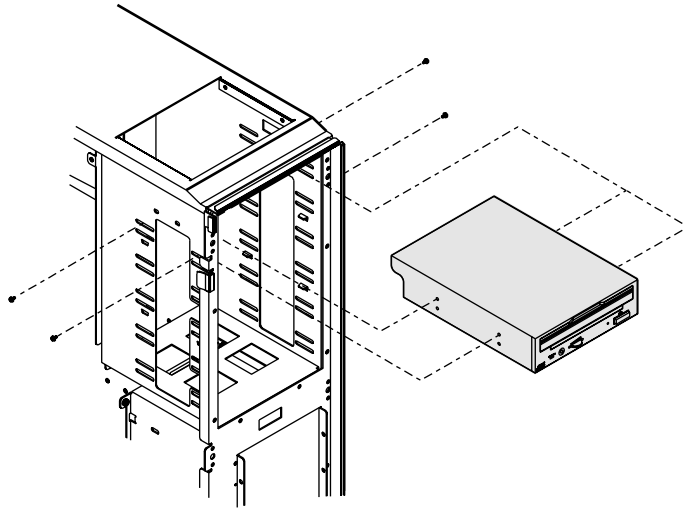

Figure 18: Replacing the CD-ROM Drive
5. Remove the screws securing the CD-ROM drive to the chassis and remove the CD-ROM drive (see Figure 18).